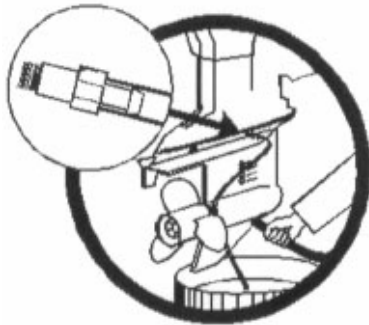

Fig. 1
1. After draining the lower unit as you normally would, install the check valve and the long clear hose assembly into the upper hole (See Fig. 1). We recommend that you put the hose end into a recovery container.